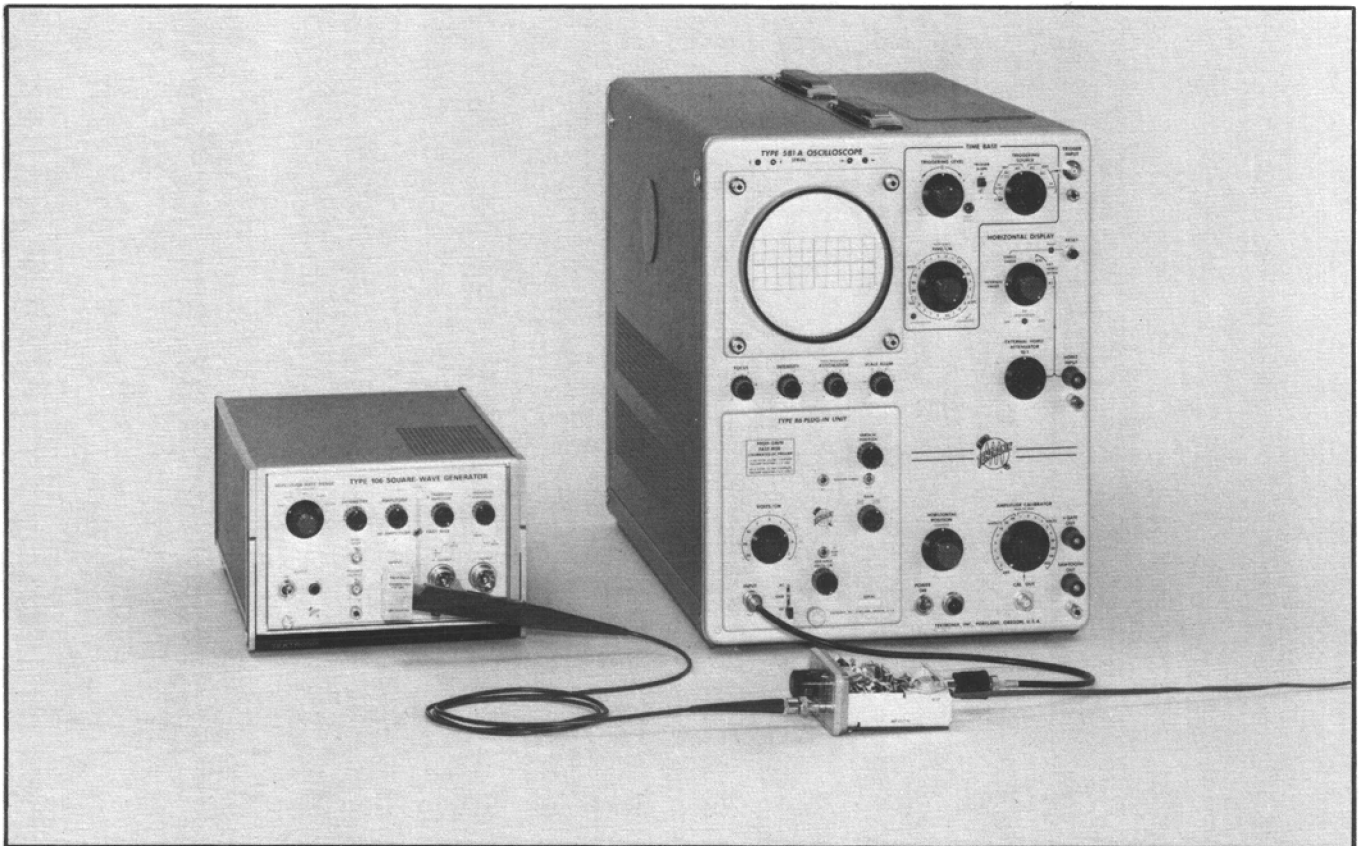

Fig. 5-2. Test setup for LF COMP adjustment.
- d. Connect the P6021 probe from the Type 134 input to the high-frequency test fixture (see Fig. 5-2).
- d. Connect the P6022 probe from the Type 134 input to the high-frequency test fixture (similar to Fig. 5-2).